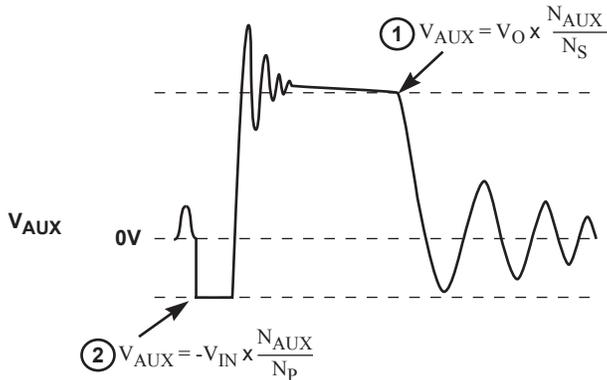

Figure 9.3: Auxiliary Voltage Waveforms
and reflects the output voltage as shown in Figure 9.3.
After a soft-start has been completed, the default output voltage should be 5V and the actual output voltage is related to the external  $V_{SENSE}$  voltage divider network and transformer secondary-to-auxiliary winding turns ratio. The digital control block measures the output conditions. It determines the output power levels and adjusts the control system according to a light load or heavy load. If this is in the normal range, the device operates in the Constant Voltage (CV) mode, and changes the pulse width ( $t_{ON}$ ) and off time ( $T_{OFF}$ ) in order to meet the output voltage regulation requirements. At the steady-state CV operation of 5V setting, the  $V_{SENSE}$  pin voltage at the instant corresponding to point 1 (as indicated in Figure 9.3) is regulated to  $V_{SENSE\_5V(NOM)}$  in most conditions, e.g. 1.536V (typical). If the default output voltage is set to 5V, the iW1780 changes the output voltage to 9V or 12V upon request from the secondary-side controller with the built-in primary-side feedback, scaling, and control. Then this  $V_{SENSE}$  pin voltage changes in proportion to the different output voltage levels.
The secondary maximum output DC voltage  $V_{BUS}$  is limited by the iW1780. In most conditions, when the  $V_{SENSE}$  signal at point 1 as indicated in Figure 9.3 exceeds the output OVP threshold, the iW1780 shuts down. While the iW1780 can protect against the  $V_{OUT}$  over-voltage through the  $V_{SENSE}$  signal in most conditions, it is difficult for the iW1780 to protect the over-voltage caused by output voltage setting mismatch between the iW1780 and the iW626. If  $V_{SENSE}$  signal scaling is not set correctly, the over-voltage cannot be detected through  $V_{SENSE}$  at the primary side. The iW1780/iW626 chipset added one more layer of OVP. When the  $V_{OUT}$  rises to above the over-voltage threshold of the iW626's present state, the iW626 drives the DRV pin in a special switching pattern serving as an OVP signal and turns on both the fast and slow discharge. After the iW1780 receives this OVP signal, it shuts down the power supply promptly.